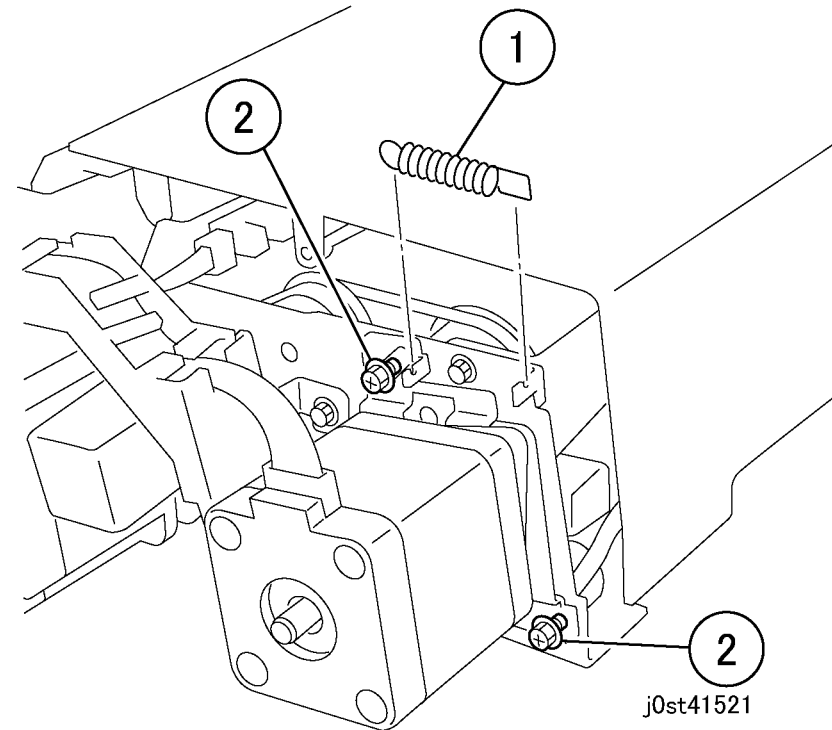

Figure 1 Loosening the belt tension
6. Loosen the belt tension on the DADF Registration Motor. (Figure 1)